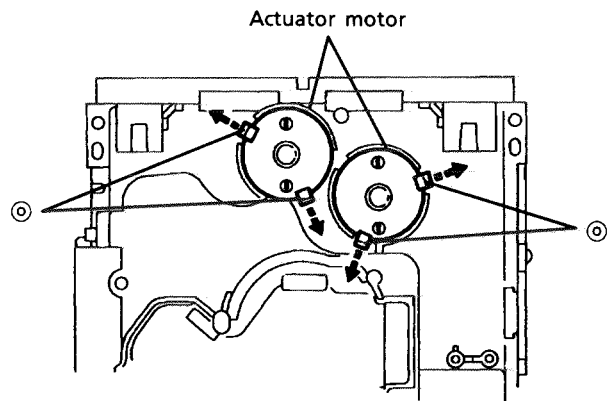

Fig. 38
5. Reverse the chassis ass'y and widen 4 poles ④ which secure both actuator motors to its arrows to remove the actuator motors. (See Fig.38.)